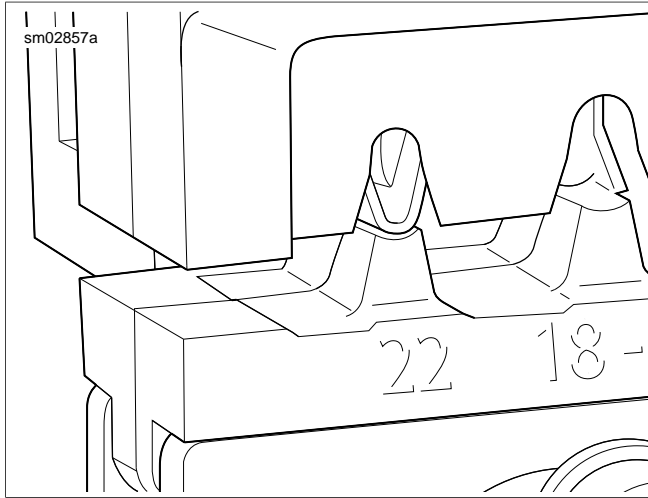

Figure A-56. Crimp Tails in Vertical Alignment between Punch and Die
2. See Figure A-56. Ratchet the handles together until the crimp tails are held in vertical alignment between the punch and the die.